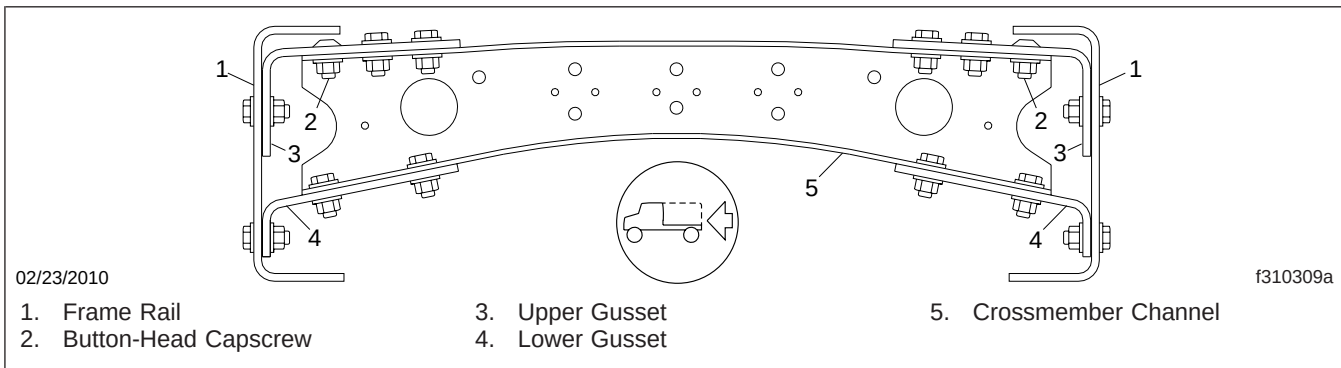

Fig. 6, Five-Piece Bolted Crossmember, Rear View
6. Place the lower gussets in position against the crossmember channel and insert the fasteners that secure the gussets to the channel. See Fig. 6.